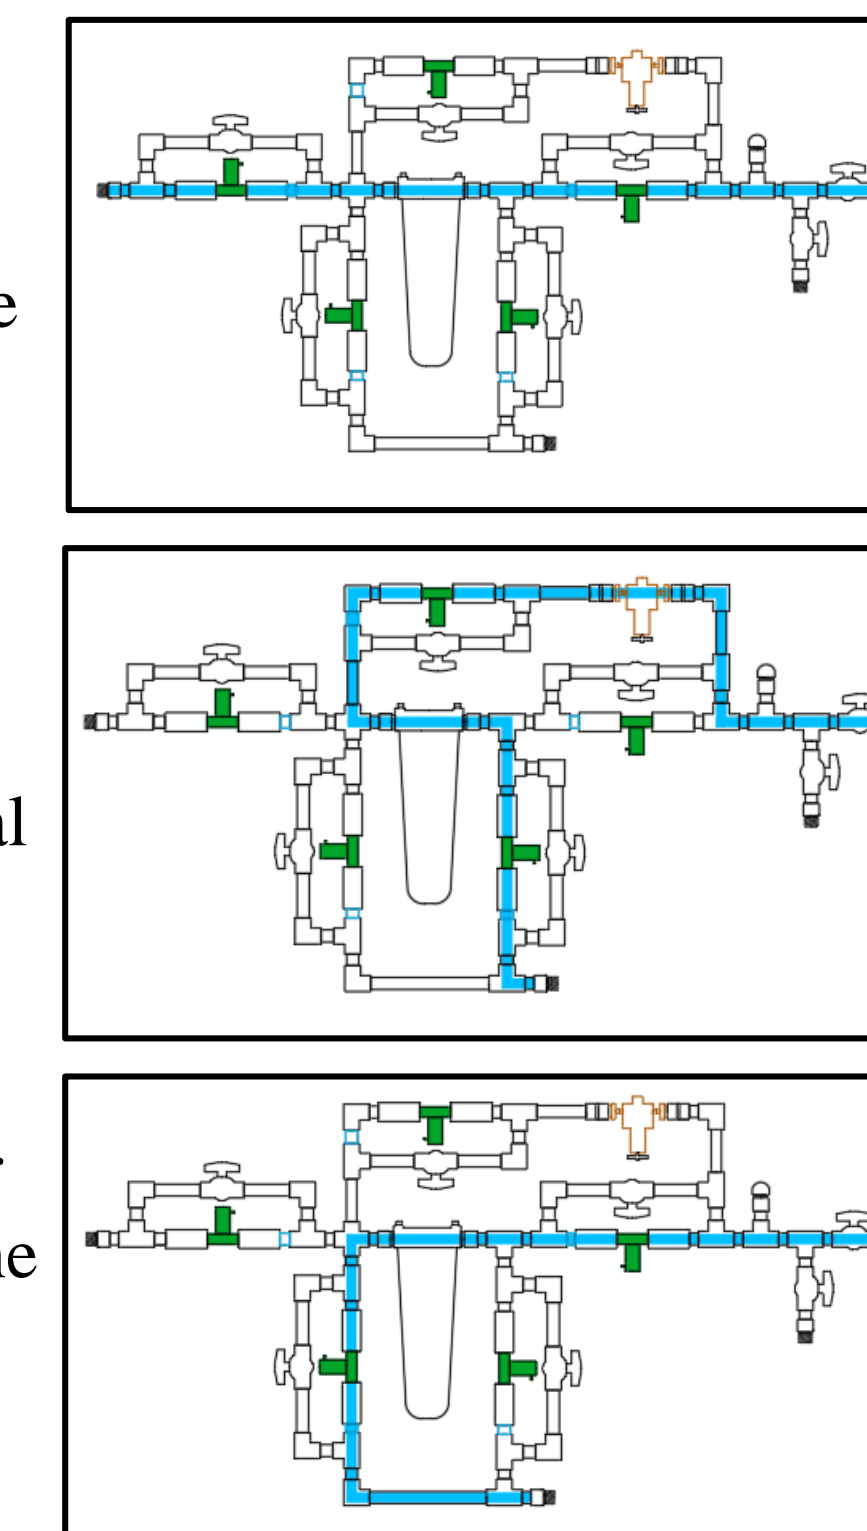

Figure 5: Stages of Backflushing
- Used five 12V normally closed Solenoid valves, coded to only open at the right stage of backflushing instead of manually turning them (see Figure 5)